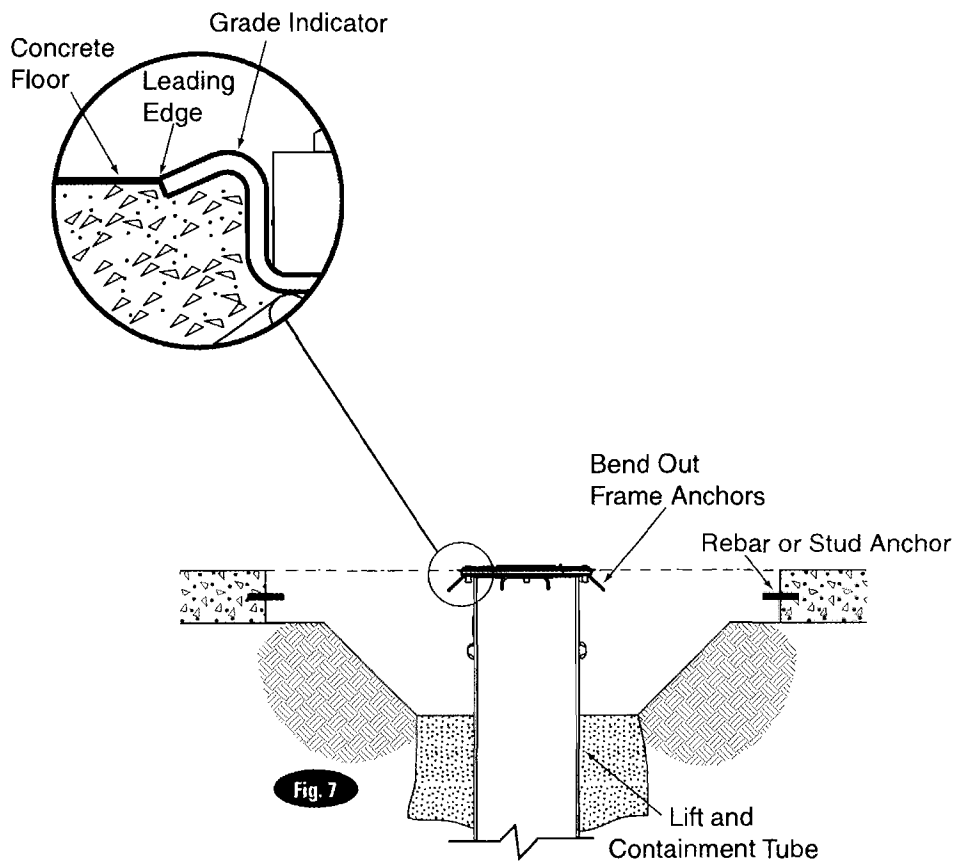

Fig. 7
D. Make sure frame anchors are bent out, Fig. 7.
B. New concrete around the lift must be keyed into existing floor with rebar or stud anchors, Fig. 7.